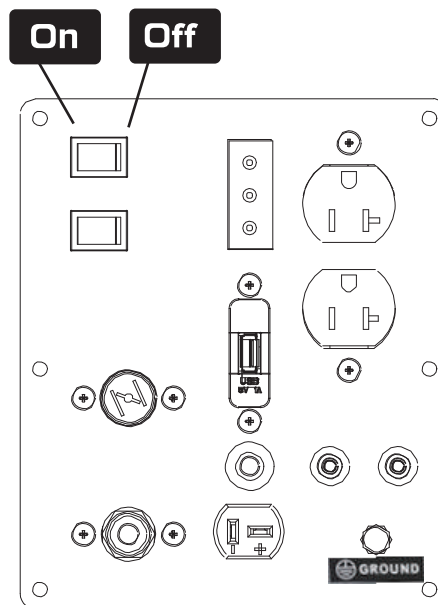

Fig. 12B
3. Turn the ignition switch to the OFF position. (Fig.12B)